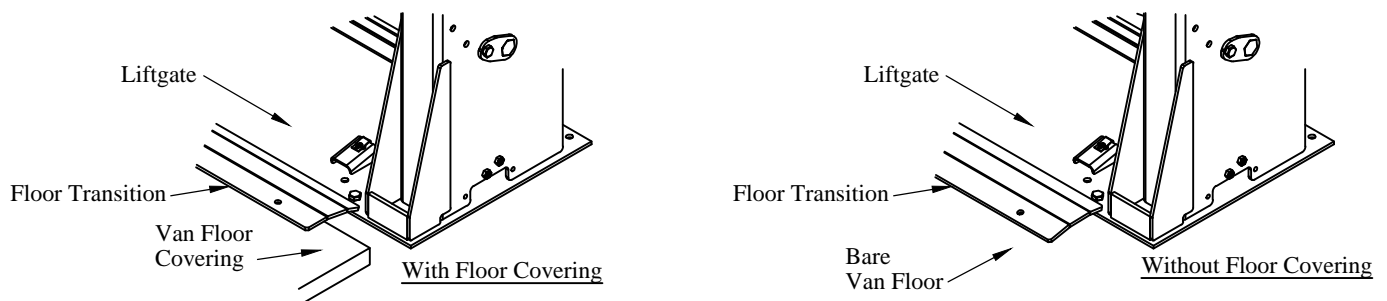

Figure 16: Floor transition.
1. **Position** the floor transition with one side on the liftgate and the other side on the van floor (Figure 16).